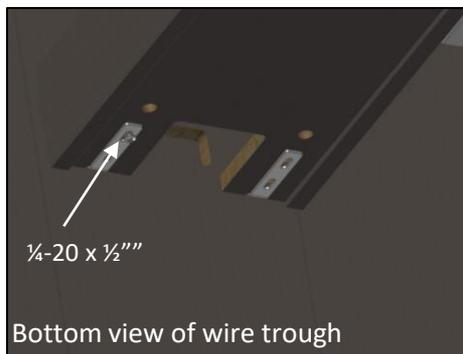

Figure 1
- 1. Attach the L-Brackets to the underside of the wire trough using $\frac{1}{4}$ -20 x $\frac{1}{2}$ " machine screws and the pre-drilled holes near the end of the trough (Figure 1)**